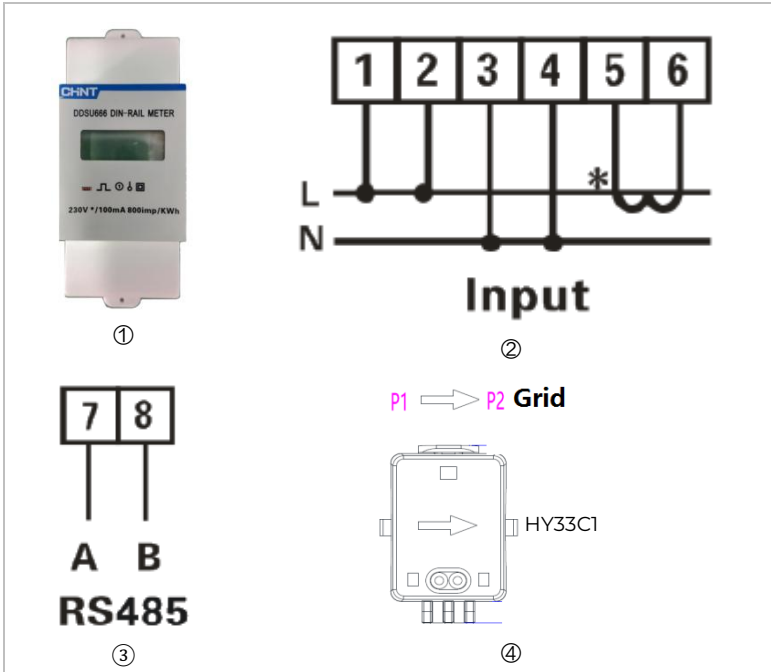

Figure 5-24 Meter
PIN6 and PIN7 of COM are used for meter communication, the electricity meter is shown in the Figure 5-24①, PIN6 and PIN7 correspond to 7, 8 respectively on the electricity meter, as shown in Figure 5-24③.
The connection mode is shown in Figure 5-24②. The 1/2 and 3/4 on the electricity meter are connected to voltage signals L and N respectively. And the current needs to be connected through the current transformer 6, 7 correspond to the current transformer.
NOTE: The direction of the current transformer is shown in Figure 5-24④.
1. For the Single-phase limit setting, the current sensor must be properly connected to the L line on the meter. The meter wiring is shown in Figure 5-24. In addition, refer to 6.3.2(3) for feed-in limit settings.